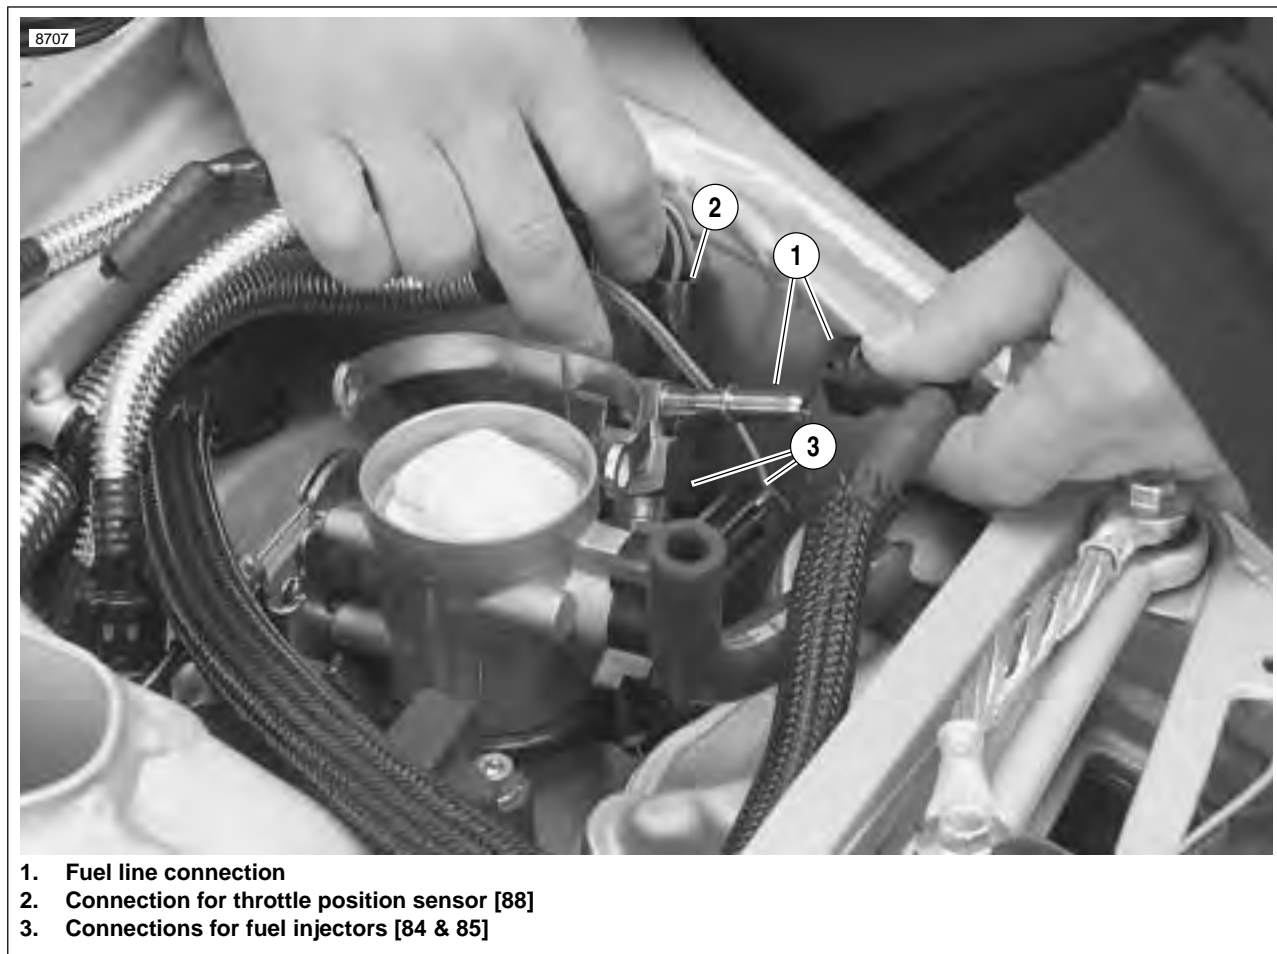

Figure 3-61. Fuel Line and DDFI Electrical Connections
44. See Figure 3-61. Connect throttle position sensor [88].